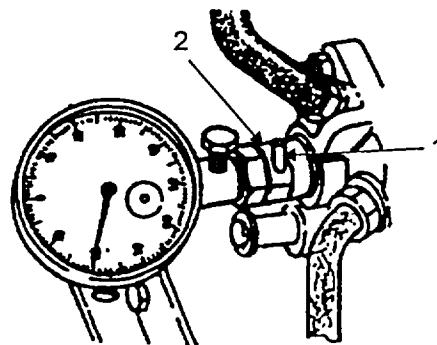

FIGURE 5-10. CHECKING DELIVERY LIFT
d. At this point, fuel should emerge again from the spill pipe (Figure 5-10, Item 1) of spill device (2)